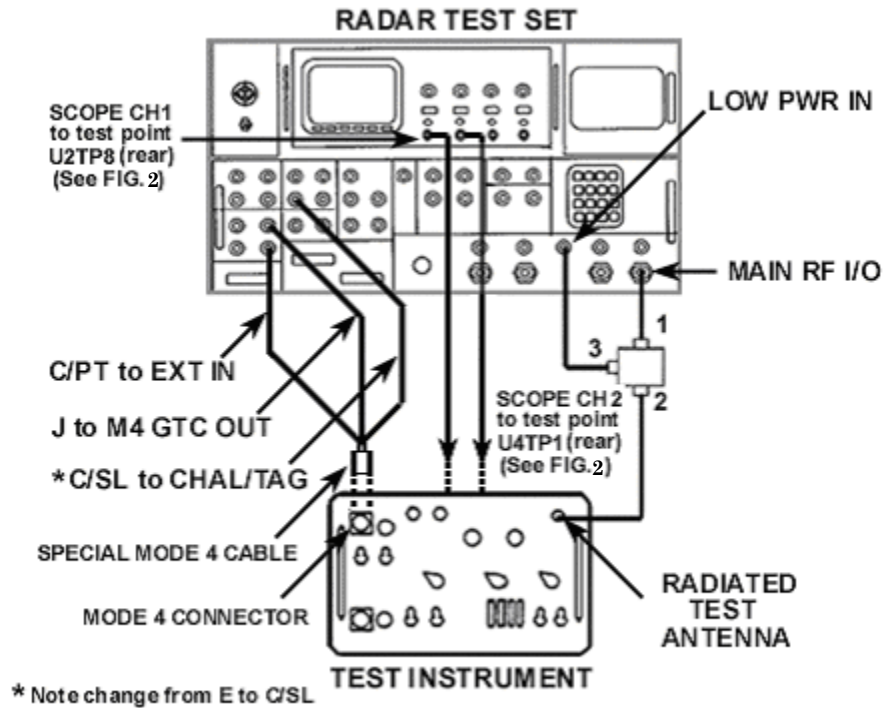

Figure 8. MODE 4 SLS pulse setup.
(1) Connect equipment as shown in figure 8.